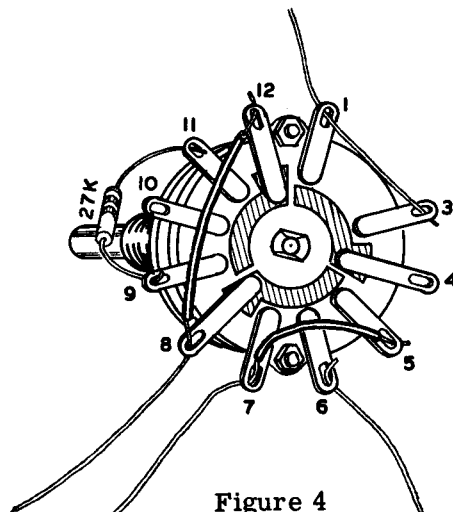

Figure 4
**SWITCH WIRING:** To facilitate construction, part of the switch is wired before the switch is mounted. See Figure 4.